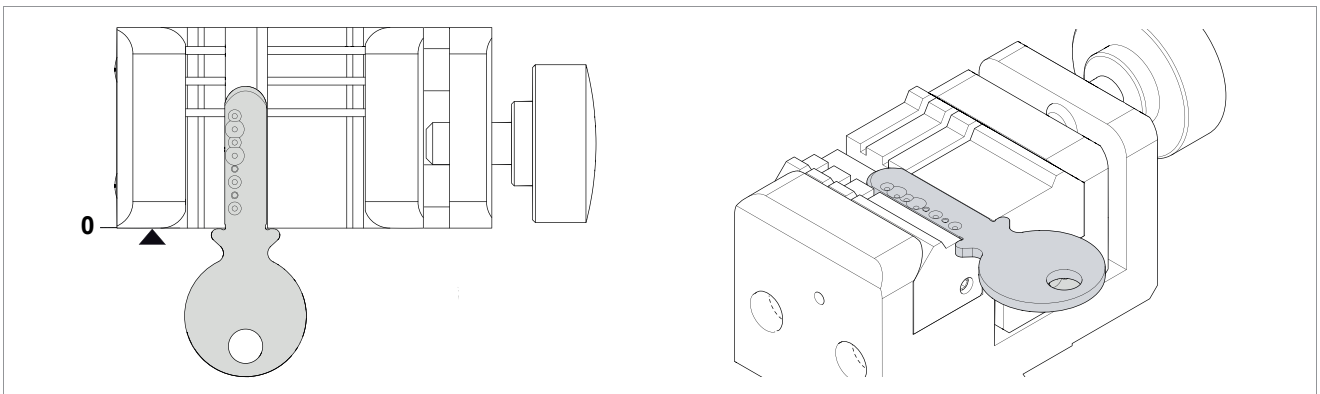
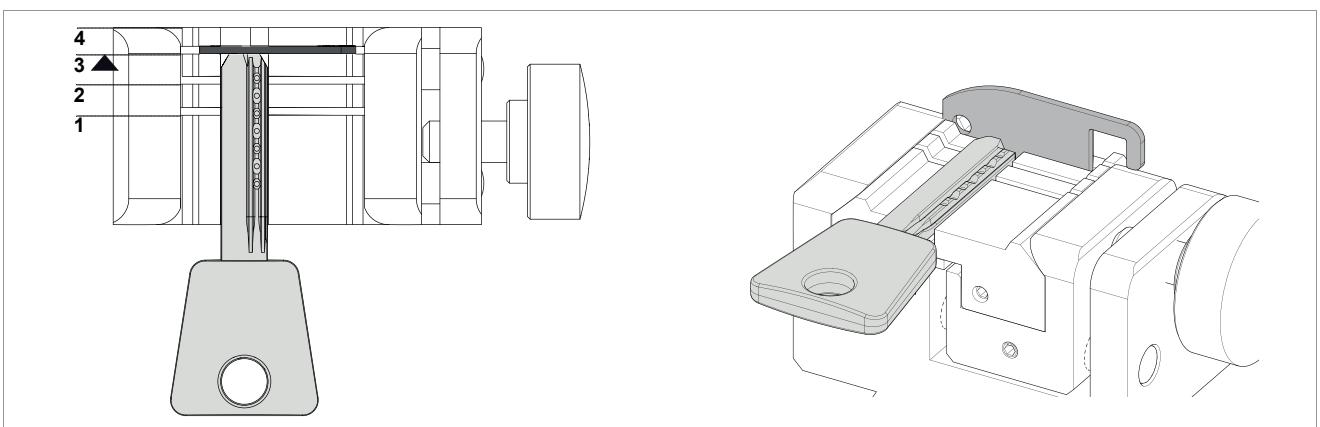

Fig. 25 - SHOULDER STOP
Fig. 26 - TIP STOP
- clamp stop (Fig. 25 and Fig. 26)
For shoulder stop keys, place the shoulder of the key against the jaws (stop "0") (Fig. 25) and the others (tip stop) must be placed against one of the grooves (1-2-3-4), as indicated in the Silca tablet program. For this operation use the bar provided (Fig. 26).